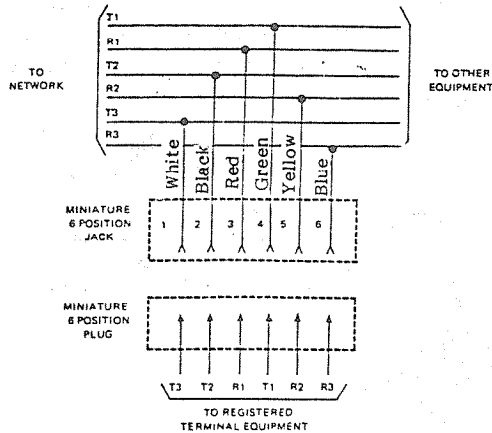

FIGURE 15
07.16 The various manufacturers of modular station blocks have employed different color codes to indicate the sequence of pairs in their blocks. However, the color code most commonly used is shown in Figure 15. Verify the configuration of your modular blocks before connecting the station cables.
07.21 Intercom codes are assigned permanently to specific MSTU cable appearances in STRATA VI. Make sure the station cables are connected to the proper terminals (Figure 15).